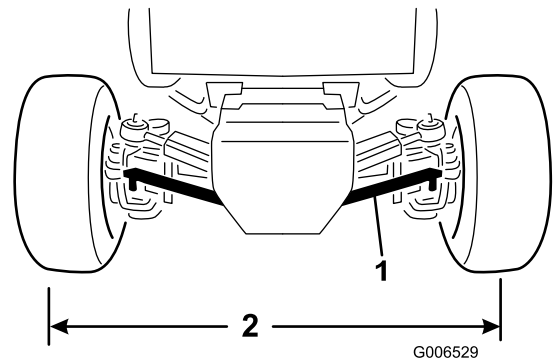

Figure 63
1. Remove cotter pin and castle nut securing 1 tie-rod ball joint to the mounting bracket on the axle and separate the ball joint from the axle (Figure 63).
3. Rotate the tie-rod ball joint in or out until the center-to-center distance at front and back of the rear wheels is the same (Figure 63).